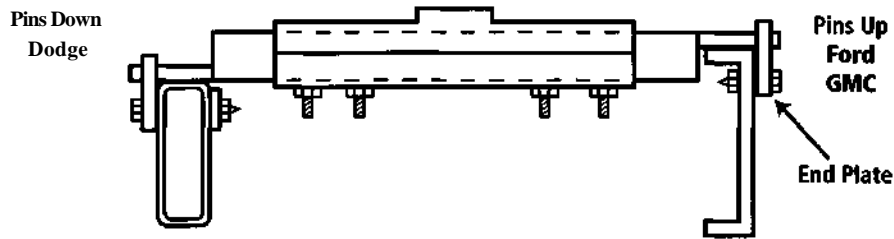

FIGURE 1
Step 1: Slide an extension tube into each end of the center beam. Loosely install (4) set screws and jam nuts into the bottom of the hitch. An alien head set screw is furnished if it is needed to clear the tailpipe, (figure 1) Note that the two V'pins extending from the tubes are not centered and are installed so that the pins are towards the top of the hitch (Ford and GMC). If the gap between the frame rails and the truck bed is at least 2 1/4" then they are installed so that the pins are towards the bottom of the hitch (Dodge).
Step 2: Position the assembly in Step 1 under the truck bed so that the pins on the extension tube rest on the truck frame rails, (figure 1)